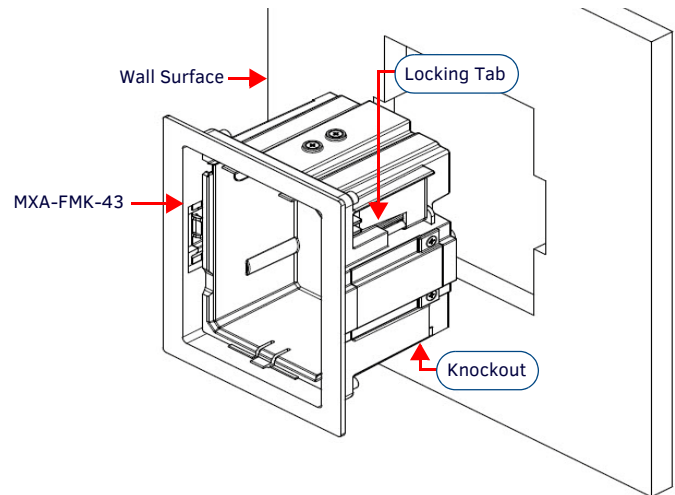

FIG. 2 INSERTING THE MXA-FMK-43 INTO THE WALL SURFACE
2. Remove the knockout at the bottom right of the FMK, and thread the incoming wiring through the knockout hole (FIG. 2).